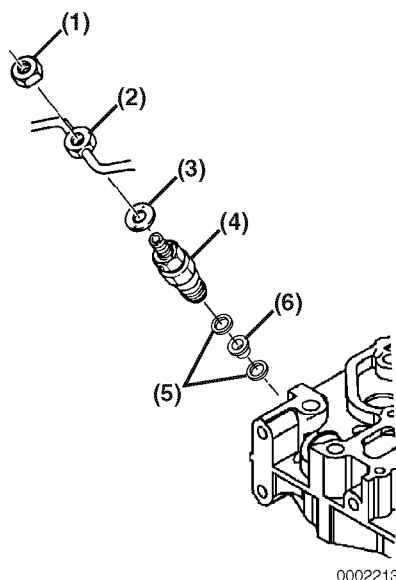

Figure 7-27
4. Remove nut (**Figure 7-27, (1)**). Remove the fuel return line (**Figure 7-27, (2)**) and copper washer (**Figure 7-27, (3)**) from the fuel injectors. *See Removal of Fuel Return Line on page 7-12.*
5. Remove the fuel injectors (**Figure 7-27, (4)**).
6. Remove the injector nozzle gaskets (**Figure 7-27, (5)**) and protector (**Figure 7-27, (6)**) from the cylinder head.